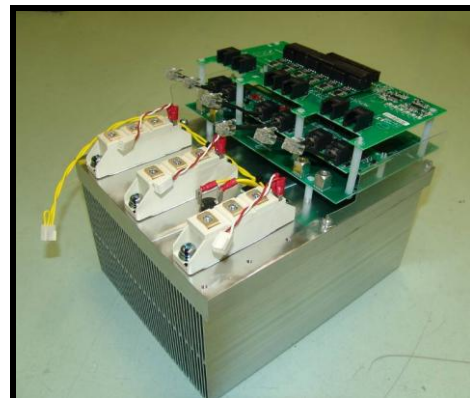

Figure 7.3.14. Disassembly of the medium and lower Gate Drive boards
- 4) Remove the medium and lower Gate Drive boards together (see figure 7.3.14).
- 3) Put the IGBT matching the fixing holes (see figure 7.3.14).